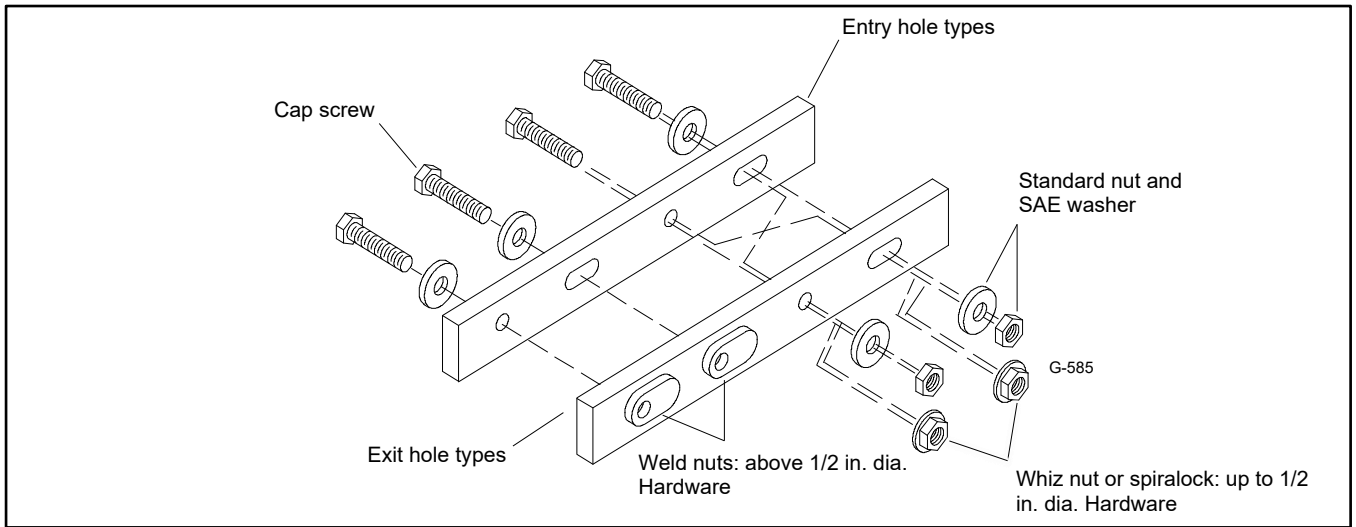

Figure 228 Acceptable Hardware Combinations
3. For round and slotted exit holes, determine if hardware is greater than 1/2 inch in diameter, or 1/2 inch in diameter or less. Hardware that is greater than 1/2 inch in diameter takes a standard nut and SAE washer. Hardware 1/2 inch or less in diameter can take a properly torqued whiz nut or spirallock nut. See Figure 228.
5. Refer to Figure 228, which depicts the preceding hardware configuration possibilities.